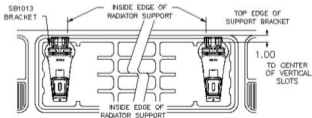

FIGURE 2
- 3) Position the support bracket in the grill against the radiator support as shown in FIGURE 2. Mark three tie down locations. Center marks within slots to allow for vertical adjustment.
- 5) Install the support bracket as shown by index marks in FIGURE 2. Be sure that the two 5/16" carriage bolts are protruding from the face slots.